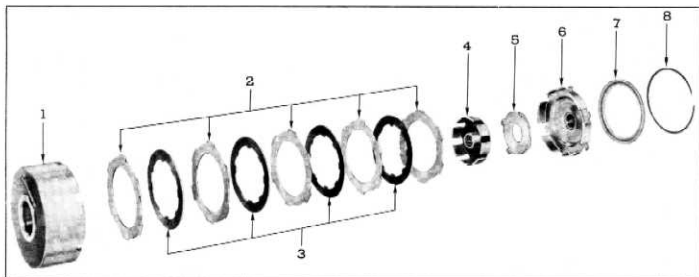

Fig. 92—Layout of Clutch Assembly
- Figure 92 shows layout of complete clutch assembly.